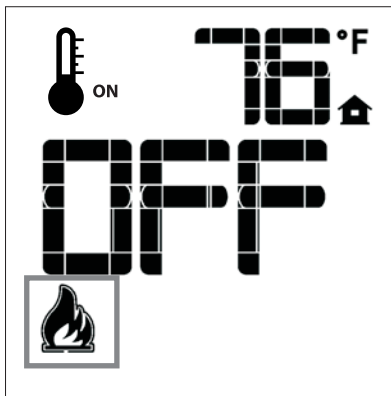

Figure 56
The Proflame GTM has six (6) flame levels. With the system on, and the flame level at the maximum in the appliance, pressing the Down Arrow Key once will reduce the flame height by one step until the flame is turned off. The Up Arrow Key will increase the flame height each time it is pressed. If the Up Arrow Key is pressed while the system is on but the flame is off, the flame will come on in the high position (**Figure 56 - 59**). A single “beep” will confirm reception of the command.